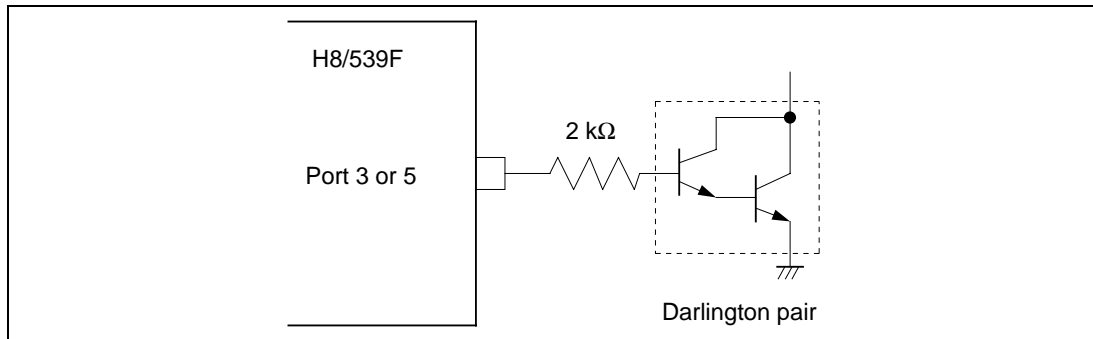

Figure 22-1 Darlington Pair Drive Circuit (Example)
2. When driving a Darlington pair or LED, always insert a current-limiting resistor in the output line, as shown in figures 22-1 and 22-2.